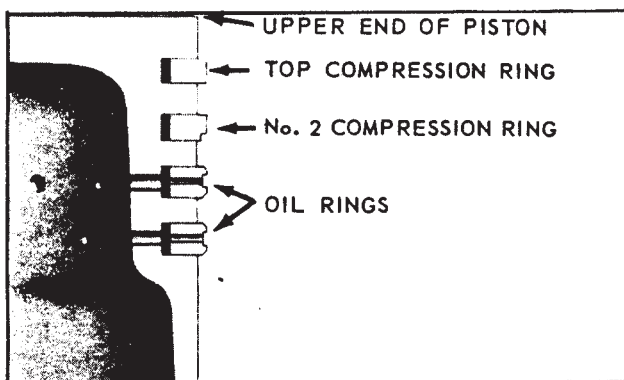

Figure 10-12. Piston Ring Identification
b. The Number 2 compression ring must be installed on the piston with the scraper edge down, otherwise oil pumping and excessive oil consumption will result. Refer to figure 10-12.